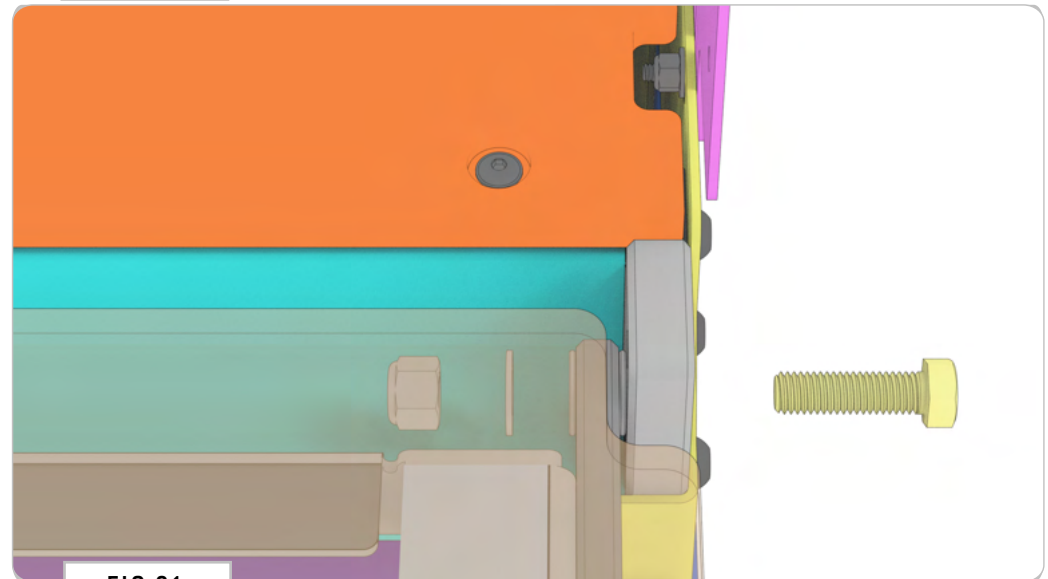

FIG 81
6.2 Install Bed Frame to Hinge Side Cabinet: Attach the **Bed Frame** to the **Hinge Side Cabinet** using (2) 1/2-13 x 1.75 Hex Head Bolt, Flat Washers and Nylon Locknuts (FIG 81).